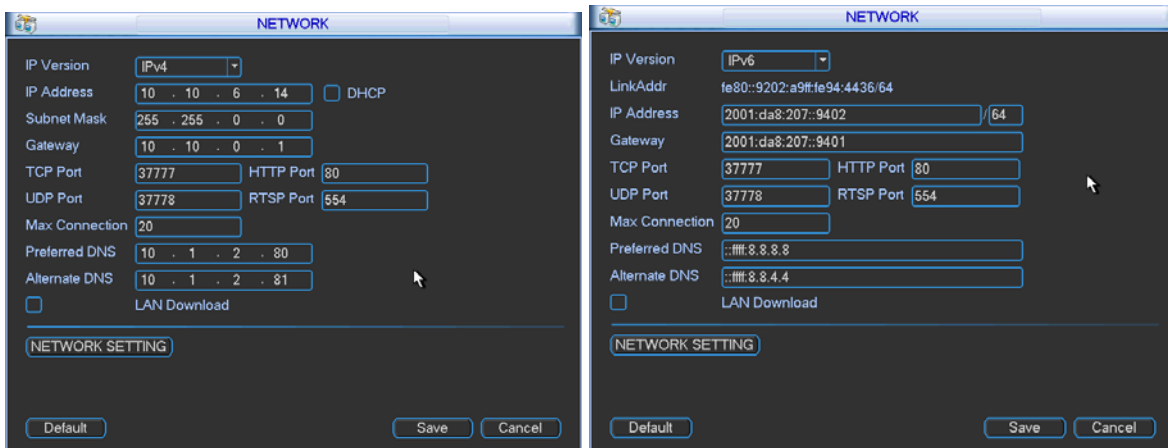

Figure 3-8
- Overlay: Click overlay button, you can see an interface is shown in Figure 3-8. Please note the following overlay titles can not be in the same position. **Please note only the unit of GPS module supports GPS overlay function.**
From main menu->Setting->Network, you can see an interface shown as below. See Figure 3-8.